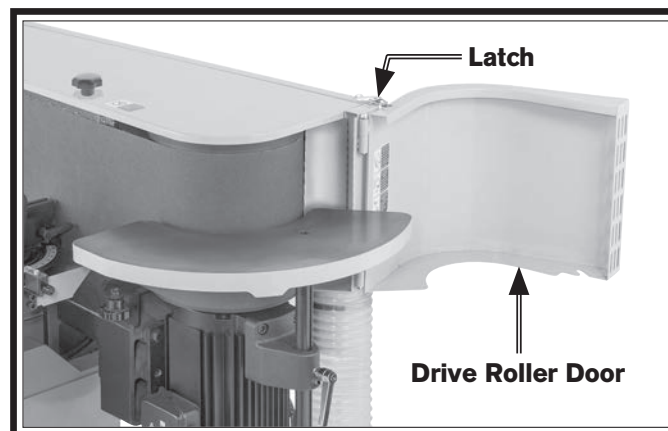

Figure 21. Drive roller door secured open.
6. Open drive roller door and use latch shown in Figure 21 to secure it open.